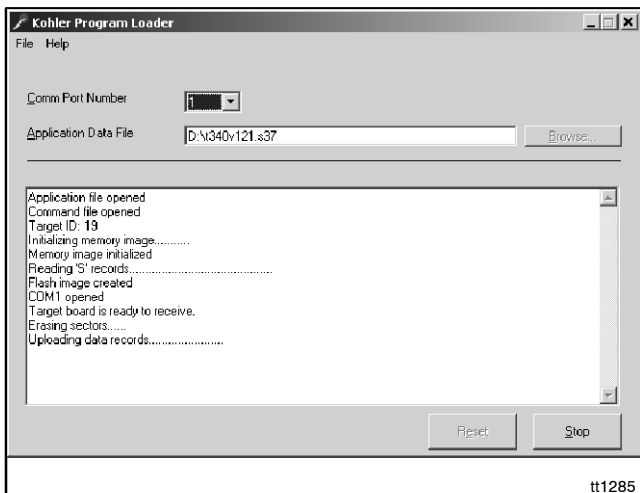

Figure 6 Program Loader Screen
14. Enter the number of the computer's COM port (number 1 through 16) that is connected to the controller through the communication cable. See Figure 6.